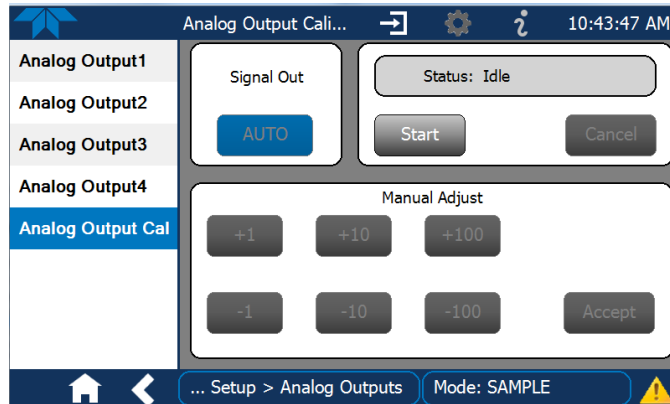

Figure 2-53. Analog Outputs Group Calibration Screen
- AUTO for group calibration (Figure 2-53) of the analog outputs (cannot be selected when Current is selected for the Range)